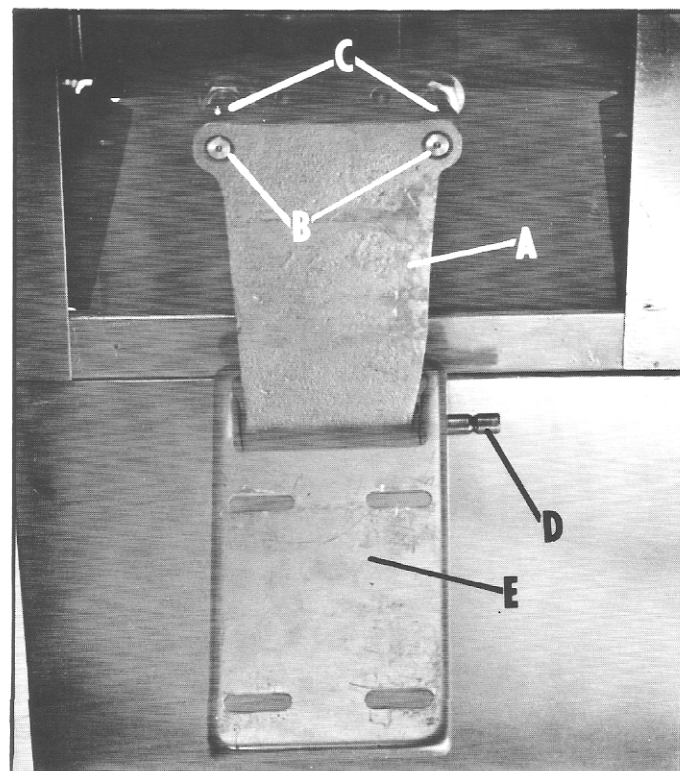

Fig. 6
1. Assemble the motor mounting bracket (A) to the two posts (B) and tighten set screws (C), as shown in Fig. 6.
2. Loosen screw that holds rod (D) in place and remove rod (D) from motor mounting bracket (A) Fig. 6.
3. Assemble motor mounting plate (E) Fig. 6, to the motor mounting bracket (A) and reassemble rod (D) to the plate and bracket. Make sure screw that holds the rod (D) in place is tightened into the V-groove in the rod.